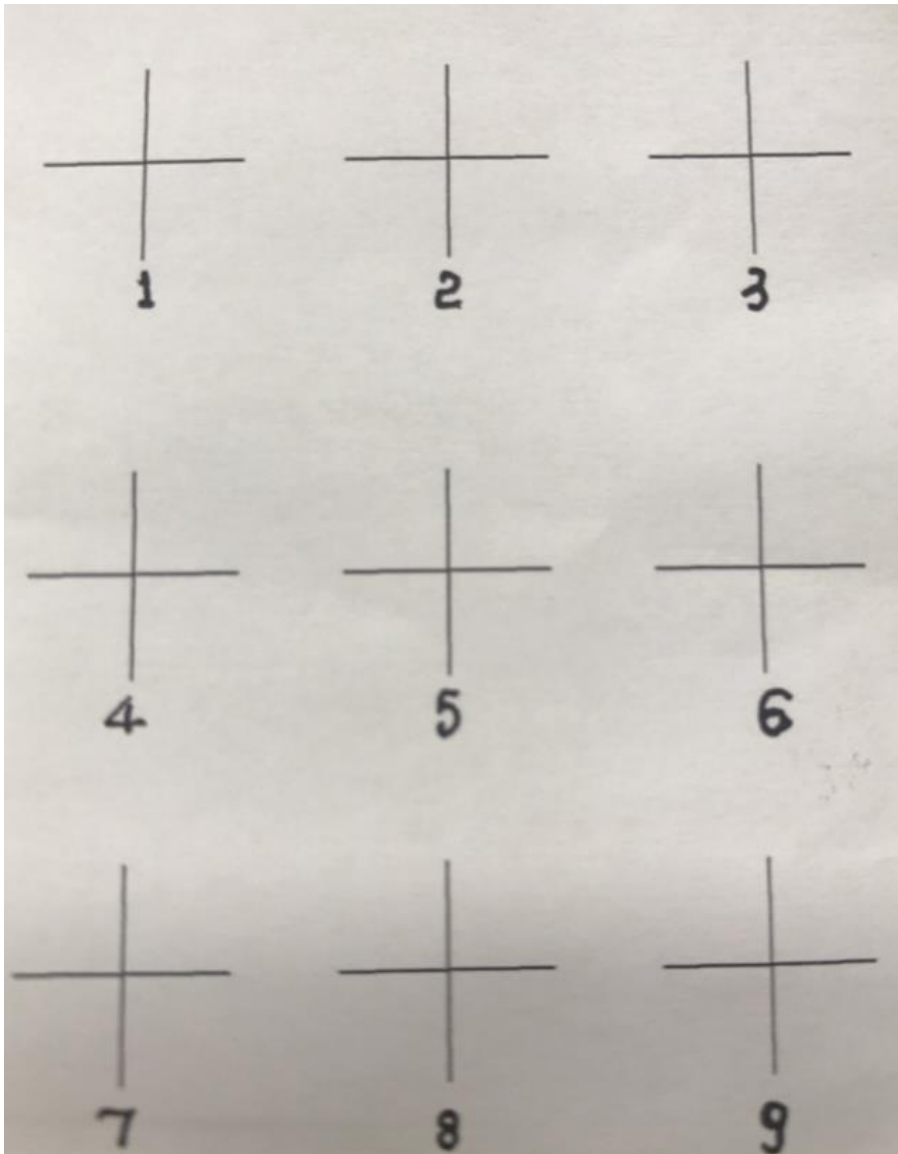

Figure 3.16 Calibration board
3. Place the calibration board on the conveyor which is in the vision search area and click **Conveyor pose** to record the current Encoder value. The calibration board is shown in Figure 3.16.